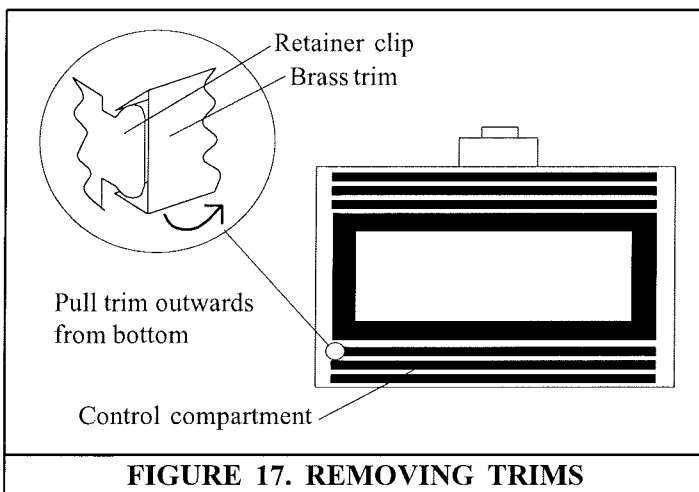

FIGURE 17. REMOVING TRIMS
Remove brass trims to control compartment by placing fingers under bottom edge of trim next to retainer clips and pull outward. (see inset figure 17)
- Check 2 amp fuse on top of junction box located in the burner control compartment. (see figure 17)